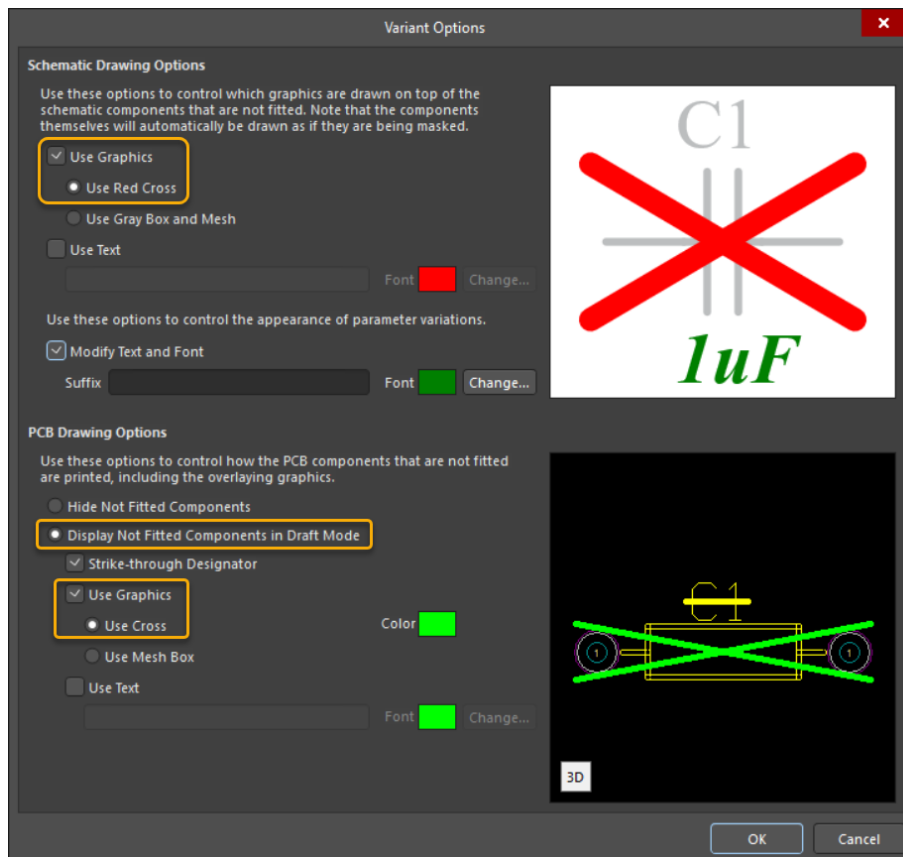

Figure 5. Variant Drawing Options
18. Make sure the *Schematic Drawing Options* has the **Use Graphics** checkbox enabled, Figure 5.
20. Under the *PCB Drawing Options* section, ensure that **Display Not Fitted Components in Draft Mode** is selected, Figure 5.